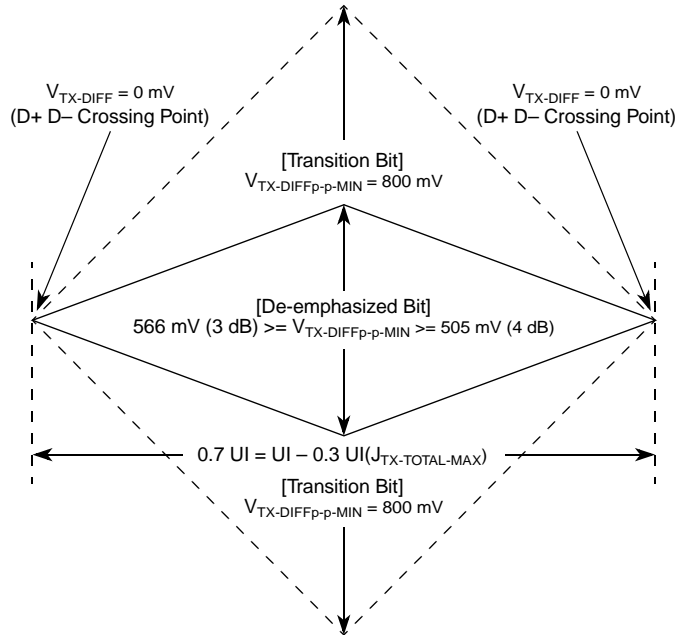
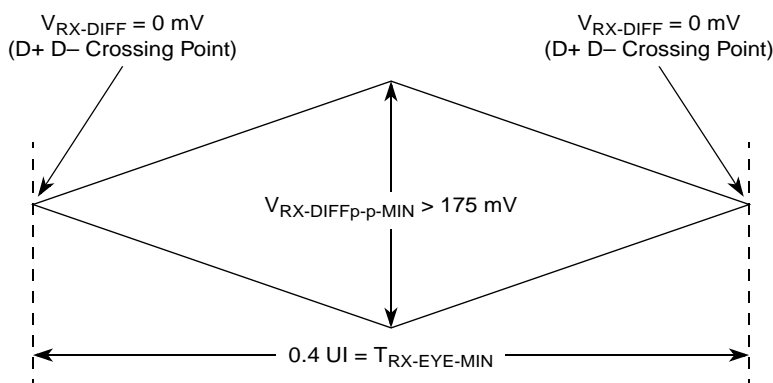
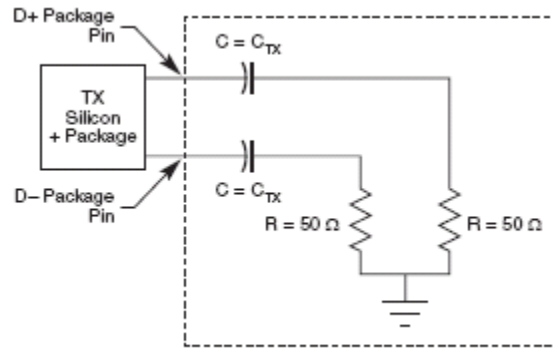

Figure 50. Minimum Transmitter Timing and Voltage Output Compliance Specifications
Figure 51. Minimum Receiver Eye Timing and Voltage Compliance Specification
Figure 52. Compliance Test/Measurement Load
2. Specified at the measurement point into a timing and voltage compliance test load as shown in Figure 52 and measured over any 250 consecutive TX UIs. (Also refer to the transmitter compliance eye diagram shown in Figure 50.)
4. The transmitter input impedance shall result in a differential return loss greater than or equal to 12 dB and a common mode return loss greater than or equal to 6 dB over a frequency range of 50 MHz to 1.25 GHz. This input impedance requirement applies to all valid input levels. The reference impedance for return loss measurements is 50  $\Omega$  to ground for both the D+ and D- line (that is, as measured by a vector network analyzer with 50- $\Omega$  probes, see Figure 52). Note that the series capacitors,  $C_{TX}$ , is optional for the return loss measurement.
5. Measured between 20%–80% at transmitter package pins into a test load as shown in Figure 52 for both  $V_{TX-D+}$  and  $V_{TX-D-}$ .
The TX eye diagram in Figure 50 is specified using the passive compliance/test measurement load (see Figure 52) in place of any real PCI Express interconnect + RX component. There are two eye diagrams that must be met for the transmitter. Both diagrams must be aligned in time using the jitter median to locate the center of the eye diagram. The different eye diagrams differ in voltage depending on whether it is a transition bit or a de-emphasized bit. The exact reduced voltage level of the de-emphasized bit is always relative to the transition bit.
2. Specified at the measurement point and measured over any 250 consecutive UIs. The test load in Figure 52 should be used as the RX device when taking measurements (also refer to the receiver compliance eye diagram shown in Figure 51). If the clocks to the RX and TX are not derived from the same reference clock, the TX UI recovered from 3500 consecutive UI must be used as a reference for the eye diagram.
4. The receiver input impedance shall result in a differential return loss greater than or equal to 15 dB with the D+ line biased to 300 mV and the D- line biased to -300 mV and a common mode return loss greater than or equal to 6 dB (no bias required) over a frequency range of 50 MHz to 1.25 GHz. This input impedance requirement applies to all valid input levels. The reference impedance for return loss measurements for is  $50 \Omega$  to ground for both the D+ and D- line (that is, as measured by a vector network analyzer with  $50-\Omega$  probes, see Figure 52). Note that the series capacitors,  $C_{TX}$ , is optional for the return loss measurement.
The RX eye diagram in Figure 51 is specified using the passive compliance/test measurement load (see Figure 52) in place of any real PCI Express RX component. In general, the minimum receiver eye diagram measured with the compliance/test measurement load (see Figure 52) is larger than the minimum receiver eye diagram measured over a range of systems at the input receiver of any real PCI Express component. The degraded eye diagram at the input Receiver is due to traces internal to the package as well as silicon parasitic characteristics which cause the real PCI Express component to vary in impedance from the compliance/test measurement load. The input receiver eye diagram is implementation specific and is not specified. RX component designer should provide additional margin to adequately compensate for the degraded minimum Receiver eye diagram (shown in Figure 51) expected at the input receiver based on an adequate combination of system simulations and the return loss measured looking into the RX package and silicon. The RX eye diagram must be aligned in time using the jitter median to locate the center of the eye diagram.
The reference impedance for return loss measurements is  $50\ \Omega$  to ground for both the D+ and D- line (that is, as measured by a Vector Network Analyzer with  $50\ \Omega$  probes—see Figure 52). Note that the series capacitors,  $C_{PEACCTX}$ , are optional for the return loss measurement.
The AC timing and voltage parameters must be verified at the measurement point, as specified within 0.2 inches of the package pins, into a test/measurement load shown in Figure 52.